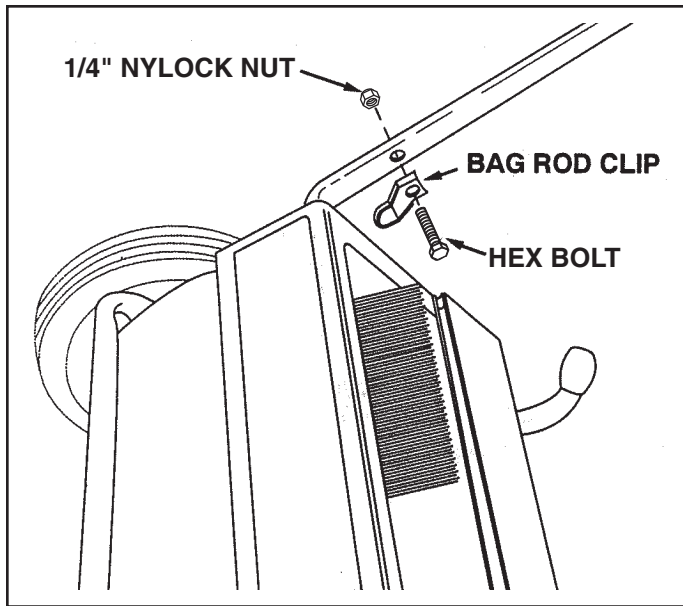

FIGURE 3
- Assemble a bag rod clip to the inside of each lower handle tube using a hex bolt secured down against the clip with a 1/4" nylock nut. The clips should face towards the sweeper housing. See figure 3.